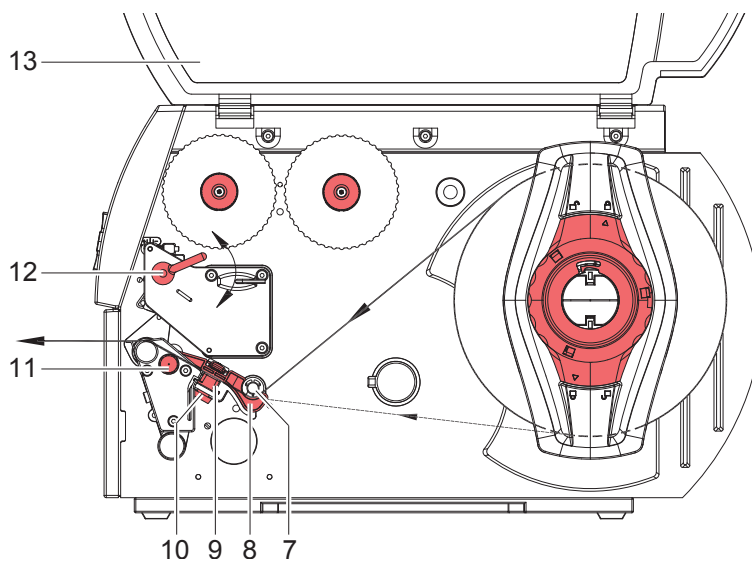

Fig. 7 Material feed path
- ▶ Loosen the knurled knob (10, fig 7) and position label sensor by moving the knurled knob in such a way that the sensor can detect the label gap or a reflex or cut-out mark.
- ▶ Turn lever (12) clockwise to lock the printhead.